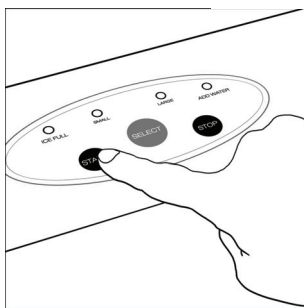

Figure 2.
5. Press the **"START"** button to start machine (See Figure 2), the ice making process will last approximately 1 hour for the first batch and 30 minutes thereafter depending on size chosen, ambient temperature and how long the unit has been in operation.